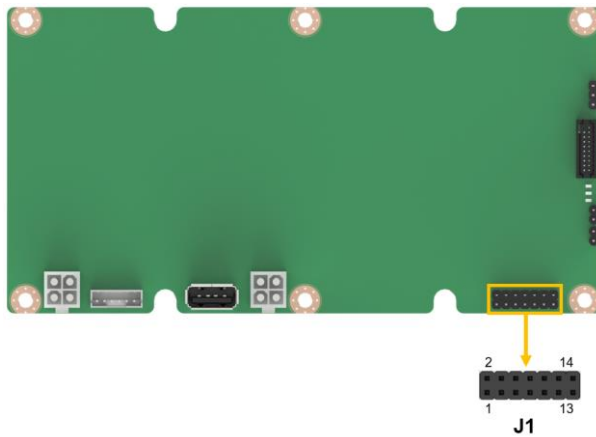

Figure 3-14: Firmware Flash Connector Location
- CN Location:** See **Figure 3-14**